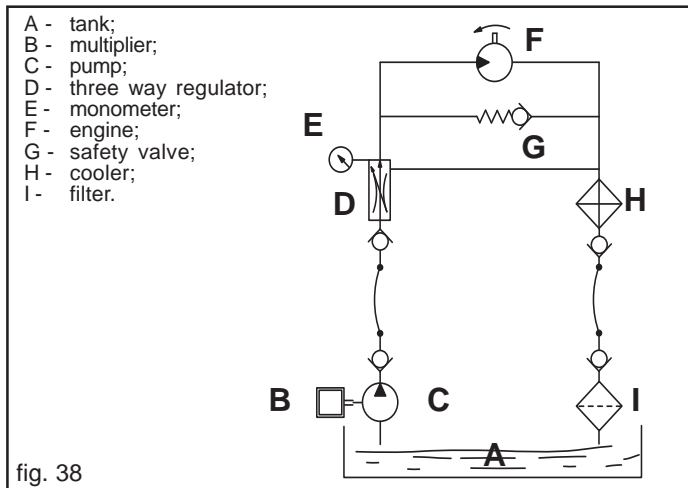

fig. 38
- b) **independent system:** a system with a self-contained oleodynamic system (Fig. 38).
Oil supply: follow the data in the table in Fig. 38.